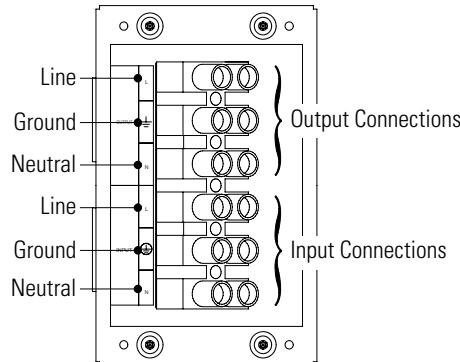

Figure 13. Terminal Block
9. Connect the input and ground wires to the input terminal block (see Figure 13).
12. Connect the output and ground wires to the output terminal block (see Figure 13).